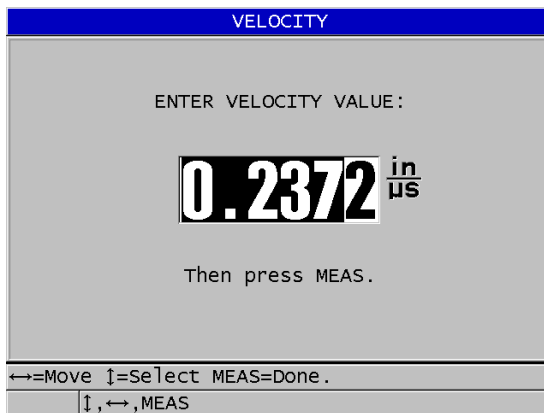

Figure 5-7 Entering a known material sound velocity
2. In the **VELOCITY** screen (see Figure 5-7 on page 78), use the arrow keys to edit the velocity to the known value.